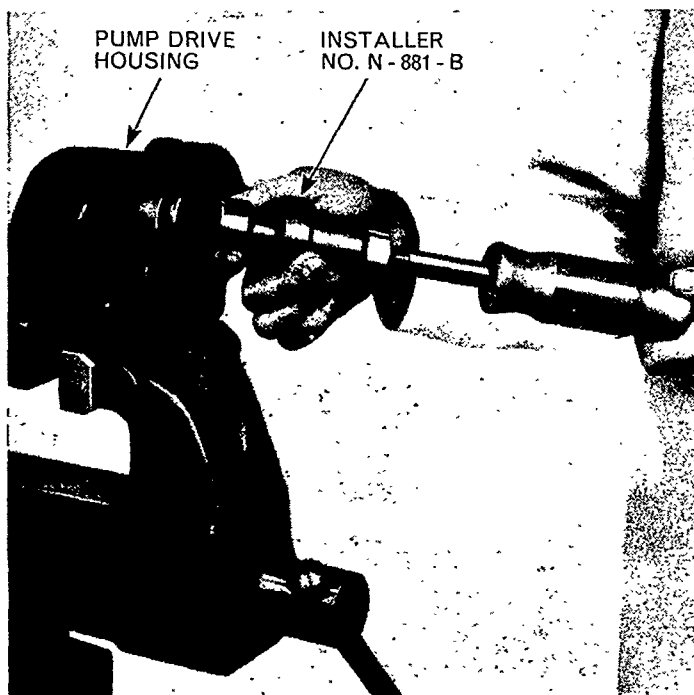

Figure 89
- d. Tap the new bearing, coated with a suitable grease, into the housing using a soft headed hammer, a suitable drift and Adaptor No. 630-3. Alternatively use Installer No. N-881-B together with Slide Hammer No. 943-S, Figure 89.